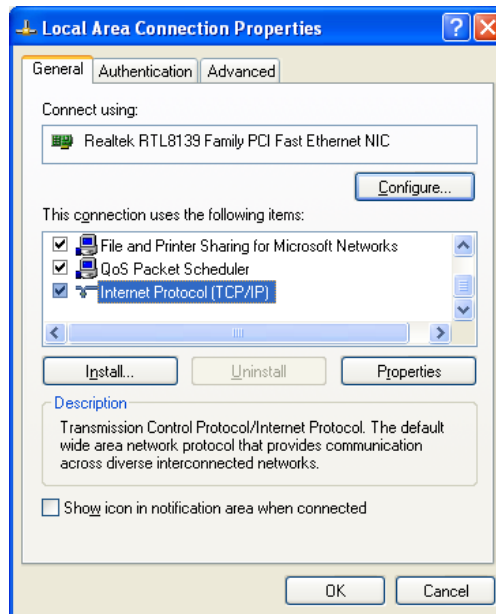

Figure 5. The Local Area Connection Properties dialog box.
4. The Local Area Connection Properties window is displayed. Select the "Internet Protocol (TCP/IP)" component (Figure 5) and click the "Properties" button.